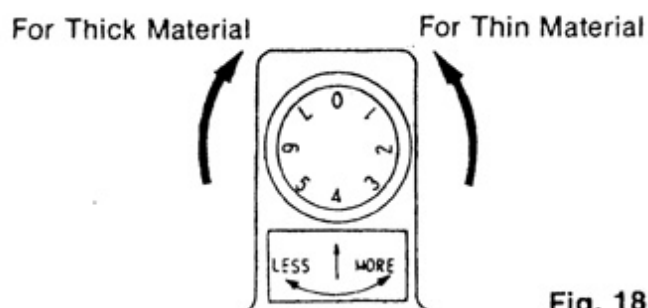

Fig. 18
9. Adjustment of Needle Penetration (Fig. 18)